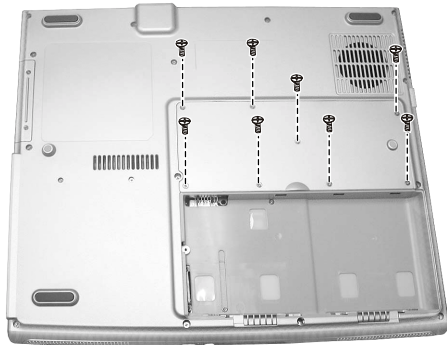

Figure 2-16 Disconnect the cable
2. Remove eight screws fastening the mini PCI cover. (Figure 2-16)